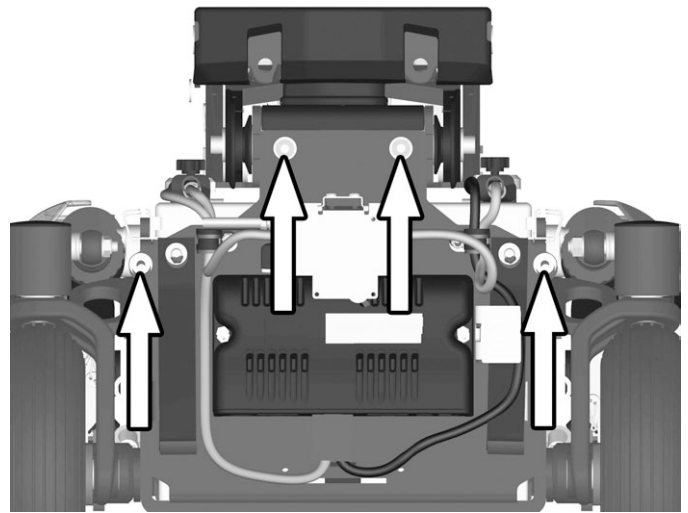

Figure 30. The battery box is secured with four screws.
6. Remove the four screws holding the battery box. See fig. 30.
4. Refit the four screws securing the battery box. Use a torque wrench to tighten the screws. **Tightening torque: 24 Nm / 17.7 Ft/lbs.** See fig. 30.